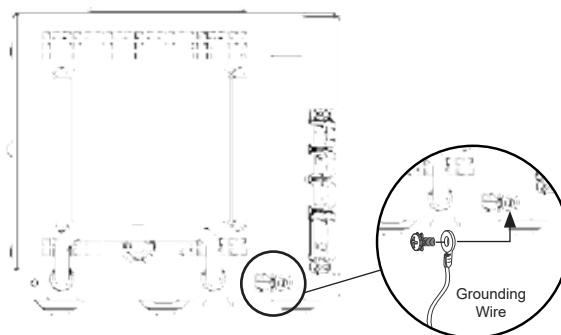

Fig. 8-5, Power Supply Ground
7. Using a user-supplied ground wire, connect the rack to the power supply ground by using the #10-32 ground stud  in **Fig. 8-1**. Connect the other end of the ground wire to the power supply using the ground screw provided (**Fig. 8-5**). Refer to applicable codes to determine additional grounding requirements.